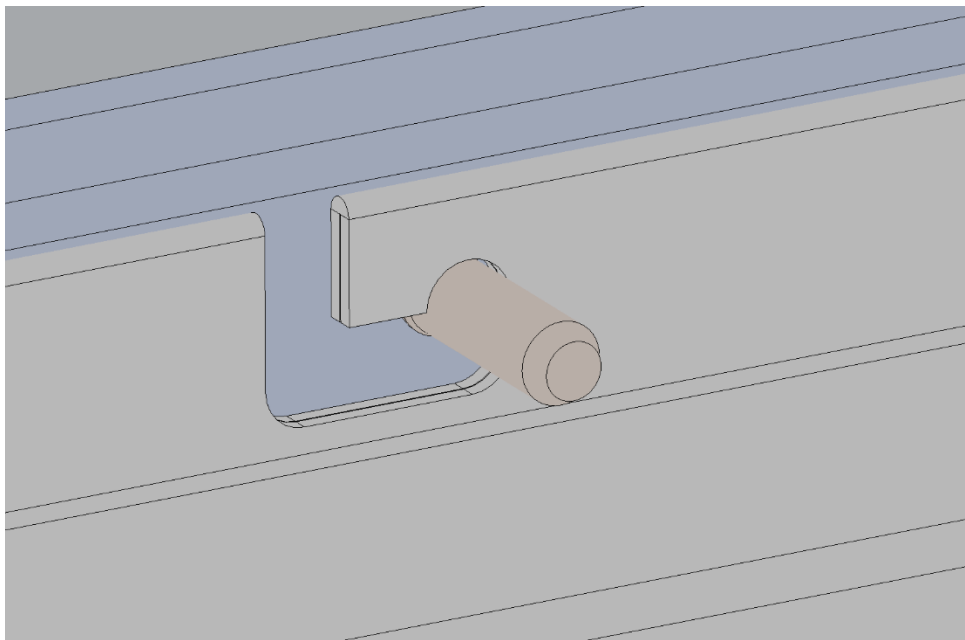

Figure 58 – Diffuser box pin location.
3. Slide the External Diffuser forward until all 8 pins sit within the notch, locking it in place – see figure 58.